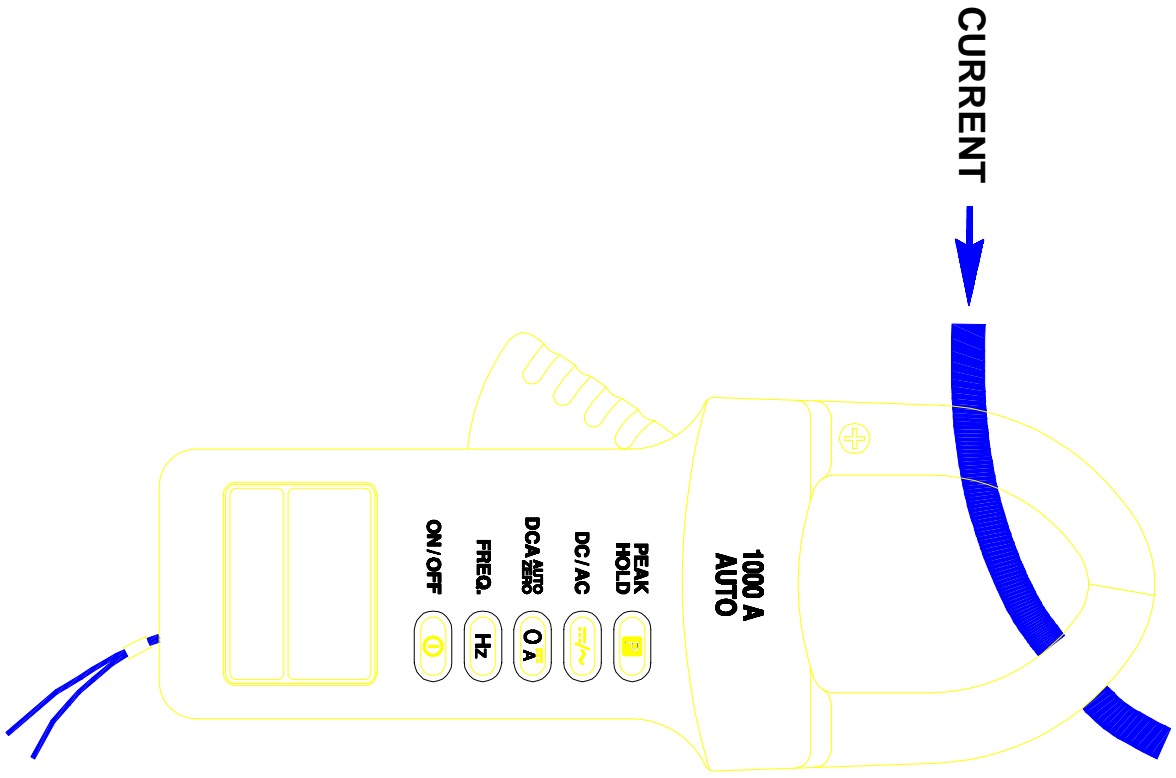

Figure 2
3. For DC measurement, the reading is positive value when the current flows from the upper side to the lower side of the instrument as Figure 2.